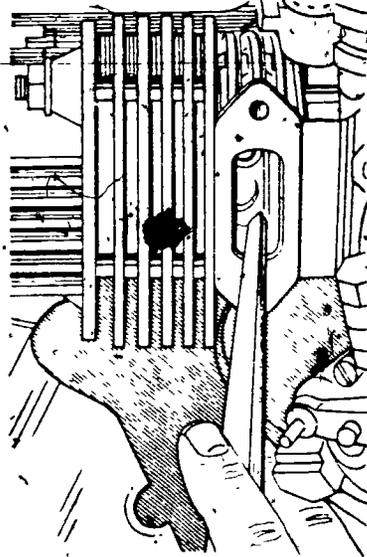

FIGURE 2
C. Using the wood scraper remove carbon from ports (Figure 2)